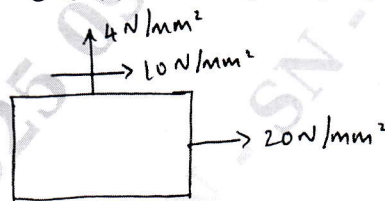

Fig.Q7(c)
c. For the state of stress shown in Fig.Q7(c), find the principal plane and principal stresses.